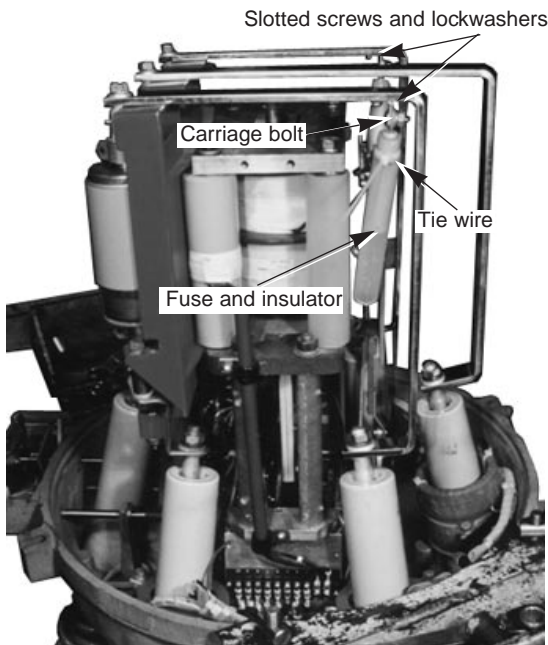

Figure 19.
A. Tighten the carriage bolt on the bracket at the bottom of the fuse (refer to Figure 19).
17. Push the fuse insulator down (toward the bushings) as far as it will go. Place a wire tie (furnished with the kit) around the bottom of the fuse and tighten the tie (refer to Figure 19). This will protect the insulator from sliding down when the unit is replaced in the tank.